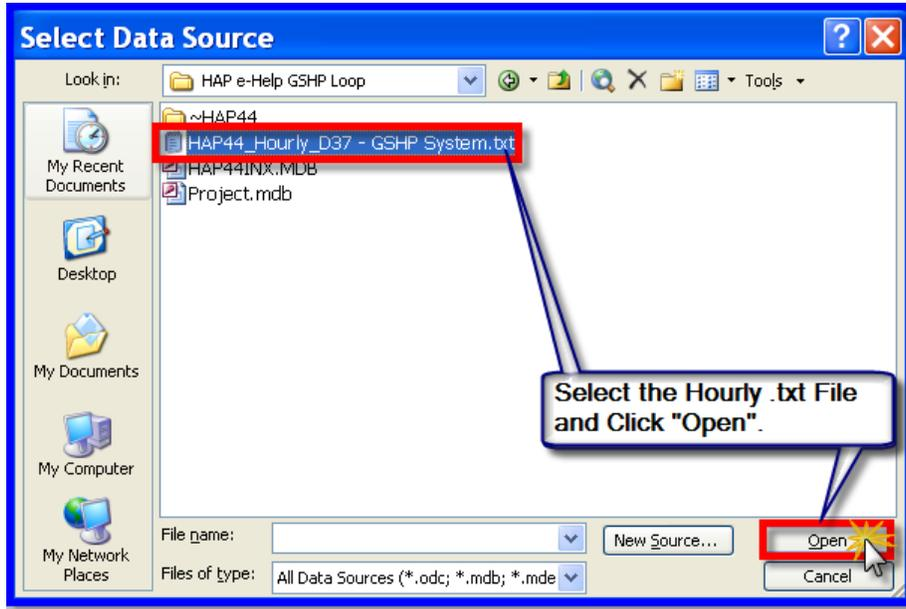

Figure 4
3. In the Select Data Source window that appears, navigate to the location of your TXT file and select the file (Figure 4).